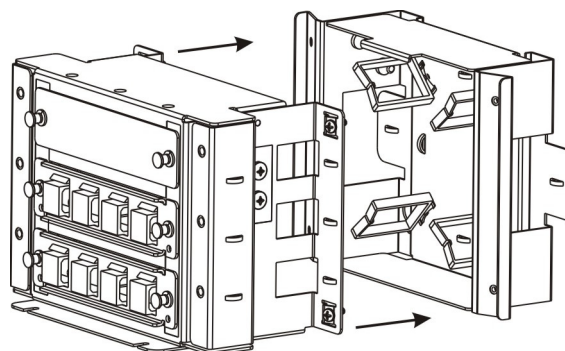

Figure 1. VMC03-000
3.1 The VMC03-000 is a powder coated steel designed housing consisting of a front, two (2) sides, and a top/bottom. The front plate has three (3) aligned slots, where each slot supports NAC's VLX or any LGX™ compatible adapter panel. The VMC03-000 is provided with two (2) LGX™-118 type panels, each with four (4) Keystone ports and four (4) caps. It is also provided with one (1) LGX™-118 type blank panel. Refer to Figure 1. The VMC03-000 side plate has numerous openings and cable tie slots for cable management. The VMC03-000 has two sections that can separate to allow excess cable to be spooled. The right side plate also provides two (2) pre-installed grounding screws